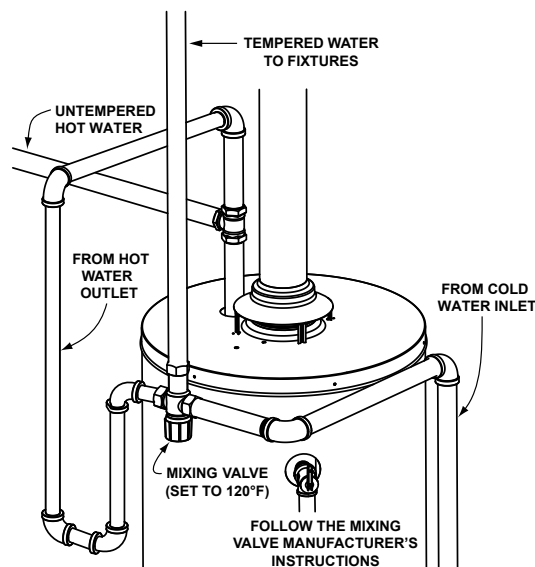

FIGURE 18.
3. The manufacturer of this water heater recommends installing a mixing valve or an anti-scald device in the domestic hot water line as shown in Figure 18. These valves reduce the point-of-use temperature of the water by mixing cold and hot water and are readily available for use.